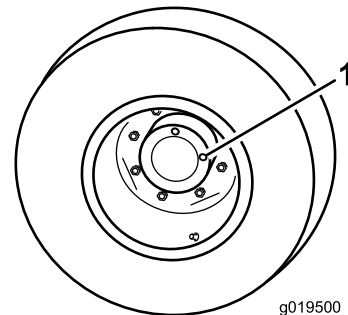

Figure 80
1. With the wheel positioned so that 1 check plug is at the 12 o'clock position and the other is at 3 o'clock position (Figure 80), park the machine on a level surface, engage the parking brake, lower the mower decks, shut off the engine, and remove the key.
1. Check/drain plug (2)
2. Remove the plug at the 3 o'clock position (Figure 80).